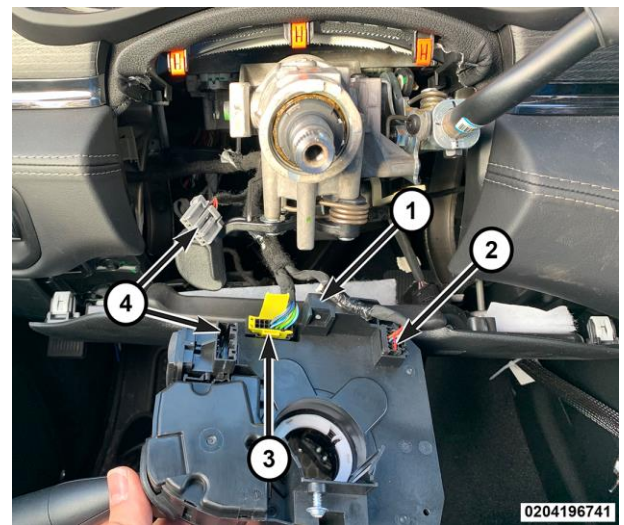

Figure 28 – SCCM
24. Pull the SCCM slightly away from the steering column and disconnect the pedal adjustment wire harness connector (4), if equipped (Figure 28).
26. Disengage the wire harness routing clip (1) (Figure 28).
27. Disconnect the wire harness connectors (2 & 3) (Figure 28).
1. Connect the wire harness connectors (2 & 3) (Figure 28).
2. Secure the wire harness routing clip (1) (Figure 28).